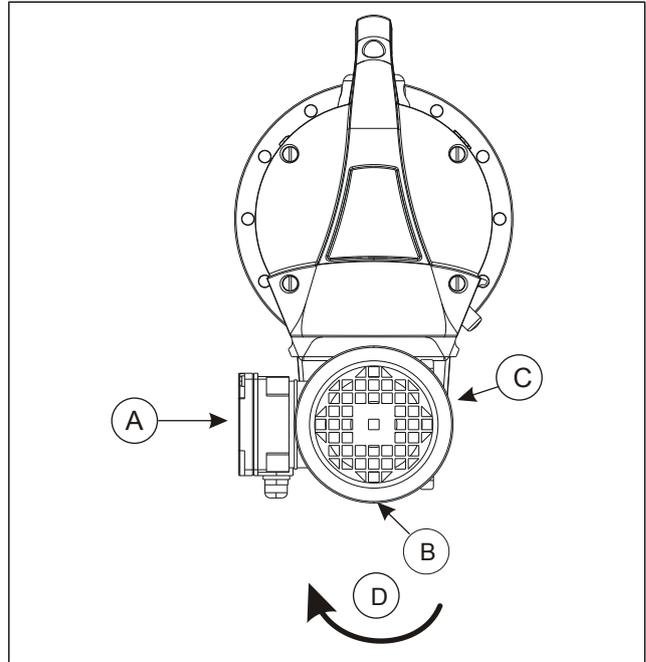

Fig. 15. A. connection box, B. motor plate, C. sticker, D. rotation direction.
1. Connection box for incoming 3-phase power (Fig. 15, point A).
5. **BD model:** Switch on the electric motor briefly and check its rotating direction, see chapter 3.15, Fig. 15.